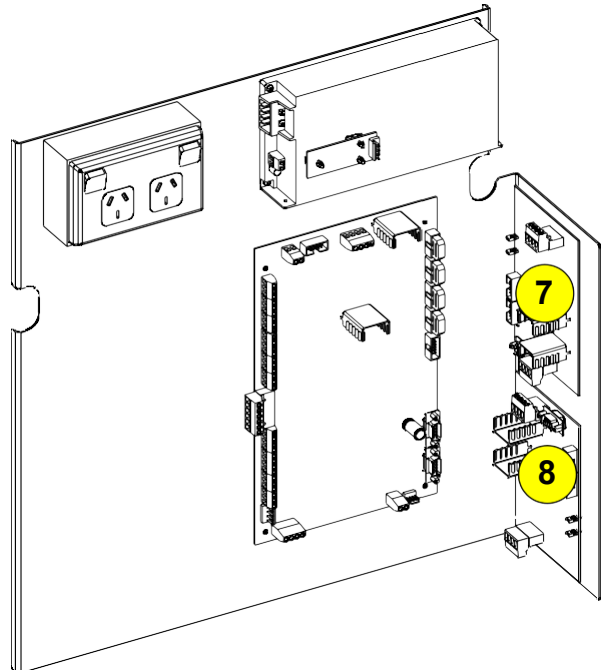

Figure 3b – Side Fold Locations
- On the side fold of the gear plate – see Figure 3b. Use this position if the back part of the gear plate does not have mounting points, or it is already filled with other items.